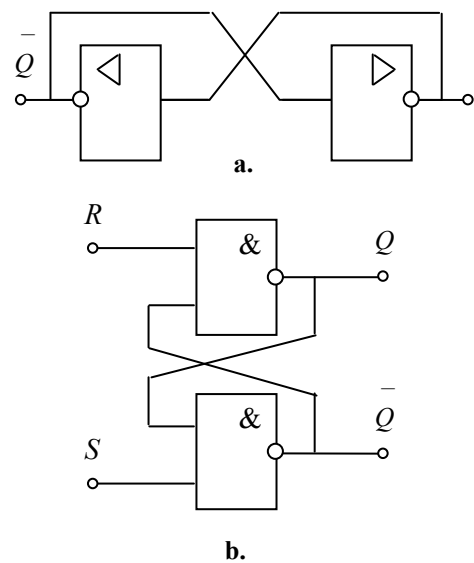

Fig. 2.64
**Sequential logic.** Using the digital logic, different kinds of switching devices may be constructed. They are known as *sequential logic circuits* that change the output when the correct sequence of signals appears at the inputs. Fig. 2.64 displays a multivibrator and an RS-type flip-flop. Their outputs are in the counter-phase states. The RS-type flip-flop is used to lock information, one RS latch per each bit. The truth table of the RS-type flip-flop is given below: